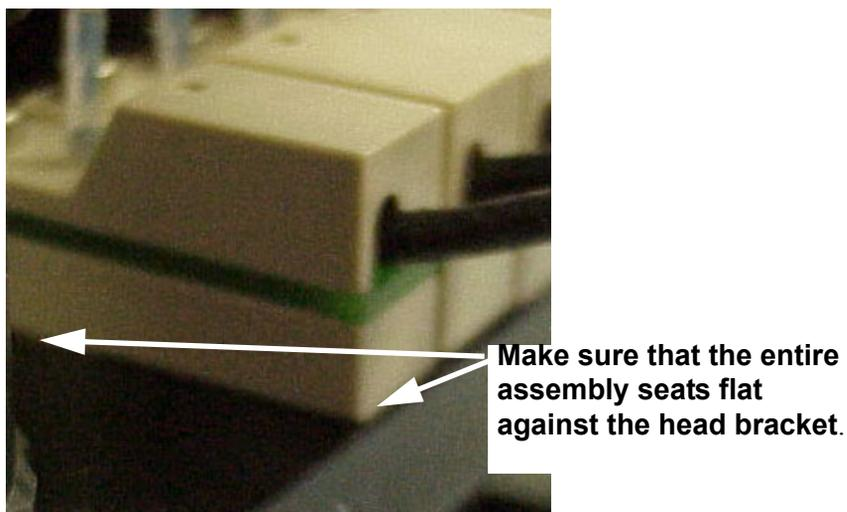

Figure 10-15. Installation of Dispenser Assembly.
9. Make sure that the entire bottom flat surface of the dispenser assembly is seated fully against the top surface of the head bracket (Figure 10-15).